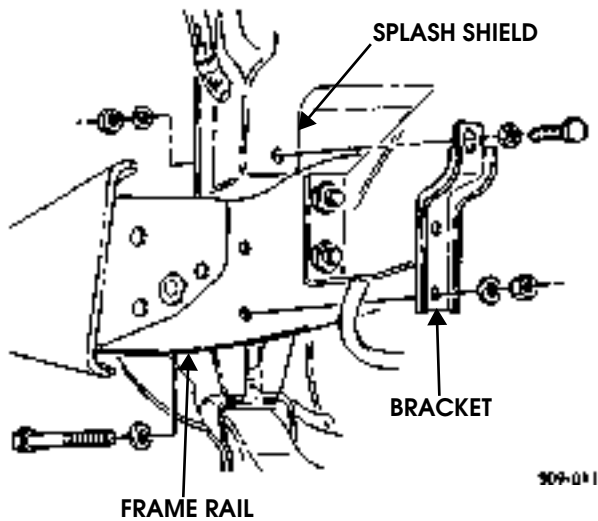

Figure 9-125: Splash Shield Support Bracket Replacement
1. Remove locknut, washer, bolt, and washer securing splash shield to bracket (Figure 9-125).
1. Install bracket on frame rail with two washers, bolts, washers, and locknuts. Tighten locknuts to 90 lb-ft (122 N•m) (Figure 9-125).